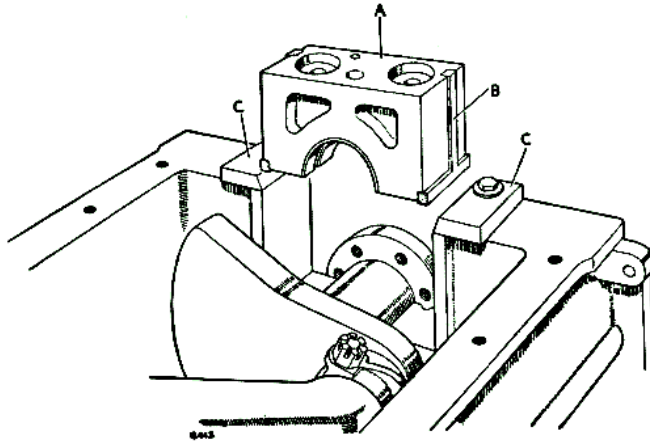

Fig. A-408—Fitting rear bearing cap and seal assembly
9. Lubricate the crankshaft journals, main bearing shells and thrust bearings, then refit crankshaft. Fitment of the rear main bearing cap, with side seals in position, will be facilitated by using a lead tool (Part No. 270304) fitted to the sump studs adjacent to rear bearing cap aperture. See Fig. A-408.